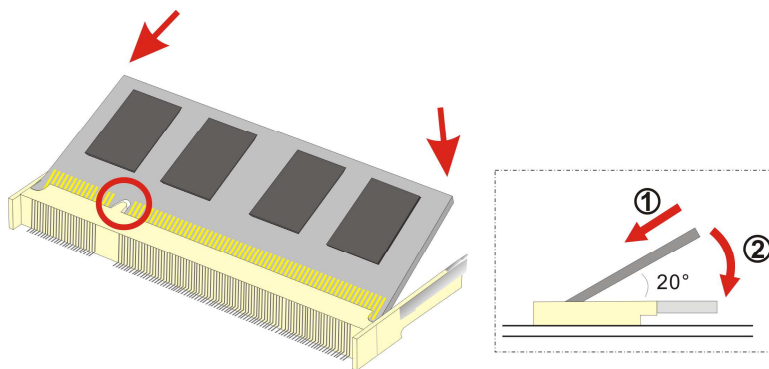

Figure 4-1: SO-DIMM Module Installation
**Step 5:** Install the new SO-DIMM module by pushing it into the socket at an angle (Figure 4-1).
**Step 6:** Gently push the rear of the SO-DIMM module down (Figure 4-1). The spring retainer clips clip into place and secure the SO-DIMM module in the socket.